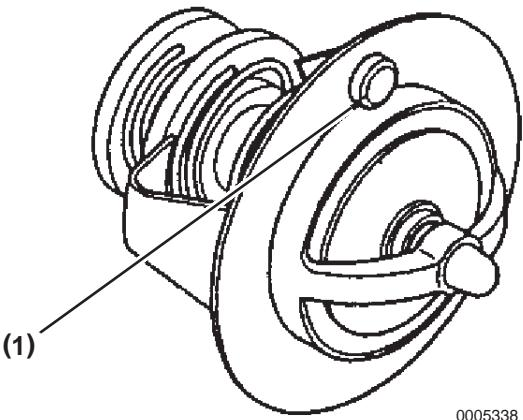

Figure 7-10
5. Inspect the thermostat for damage. Inspect the jiggle valve **(Figure 7-10, (1))** for damage. Replace as necessary.